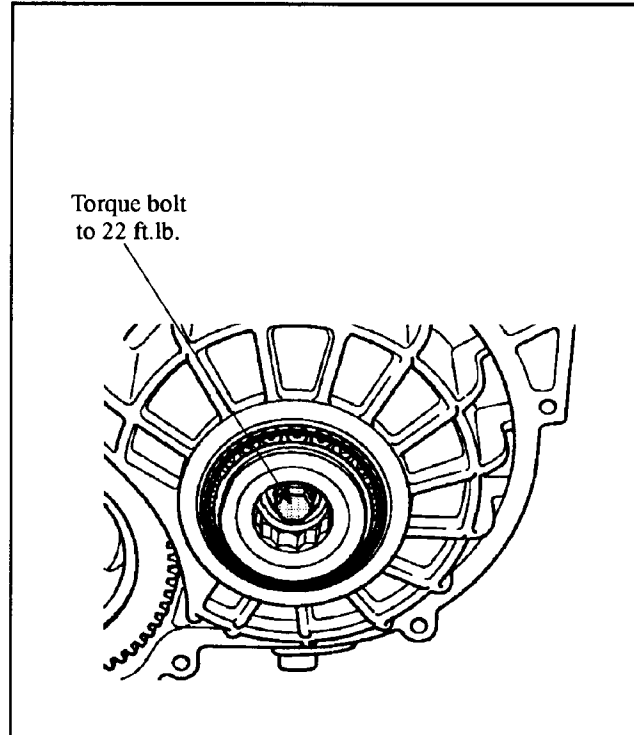

Figure 150
22. Install the 13mm head hex bolt into the back of the small driveshaft as shown in Figure 150 and torque the bolt to 22 ft.lb.